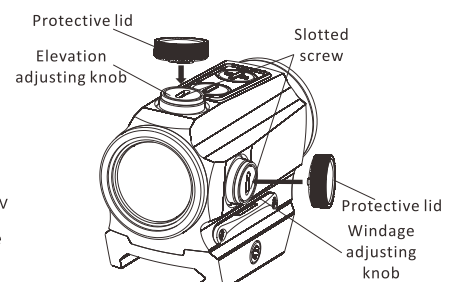

Fig 6
2. The Convex platform on the protective cap can be used for zeroing alignment(see Fig6).
1. On top of sight is the elevation adjusting knob, windage adjusting knob is on the right side (see Fig6). The sight has been primarily adjusted in factory.